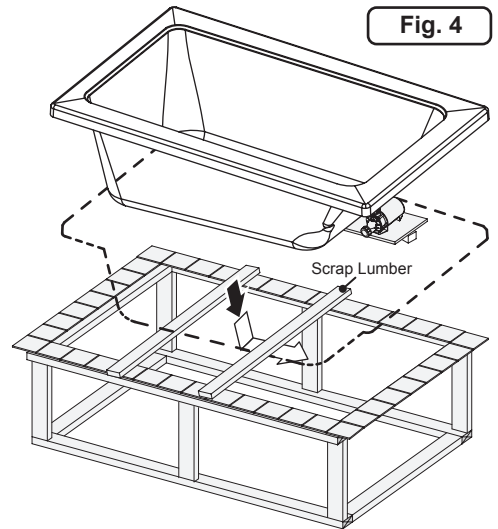

Fig. 4
1. Place a piece of scrap lumber on each of the ends of the cutout – this will be used as a temporary support prior to lowering the bathtub fully into the opening (Figure 4).